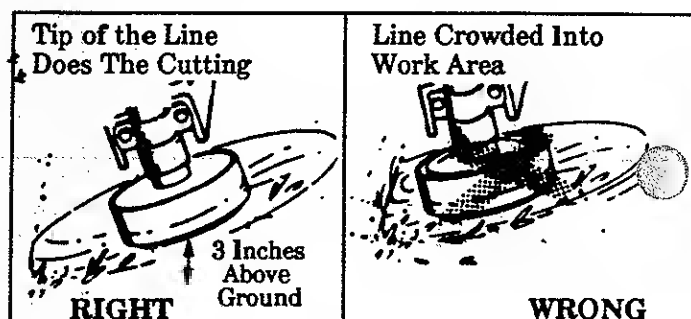

Figure 12
- The tip of the line does the cutting. You achieve the best performance and minimum wear by not crowding the line into the cutting area. The right and wrong way are shown in Figure 12.